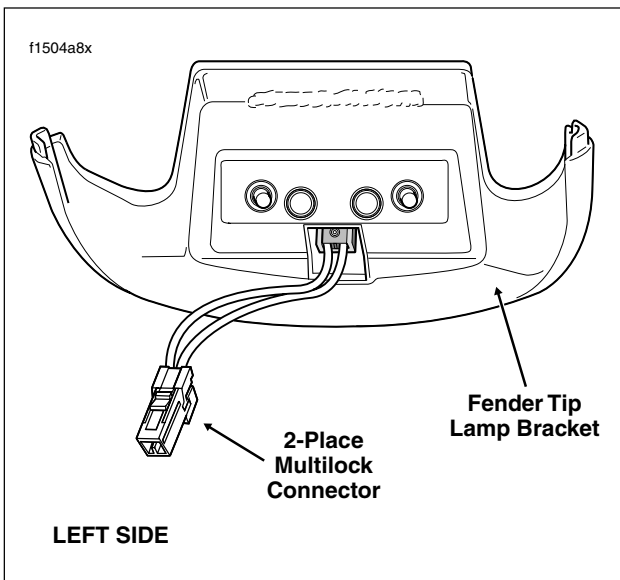

Figure 8-44. Fender Tip Lamp Assembly
4. Depress button on socket terminal side of black 2-place Multilock connector to release fender tip lamp assembly from jumper harness. See Figure 8-44.
1. Mate pin and socket halves of black 2-place Multilock connector to attach front fender tip lamp assembly to jumper harness. See Figure 8-44.
14. Depress button on socket terminal side of 2-place Multilock connector to release fender tip lamp assembly from jumper harness. See Figure 8-44.
2. Mate pin and socket halves of 2-place Multilock connector to attach front fender tip lamp assembly to jumper harness. See Figure 8-44.